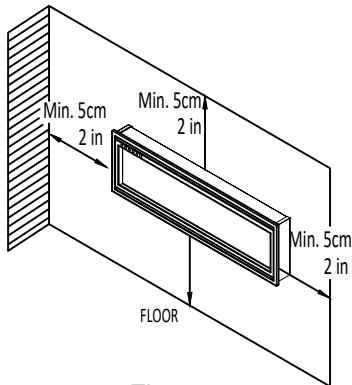

Fig 1
2. Using a spirit level to select a position in which to mount the heater horizontally. See Figure 1.